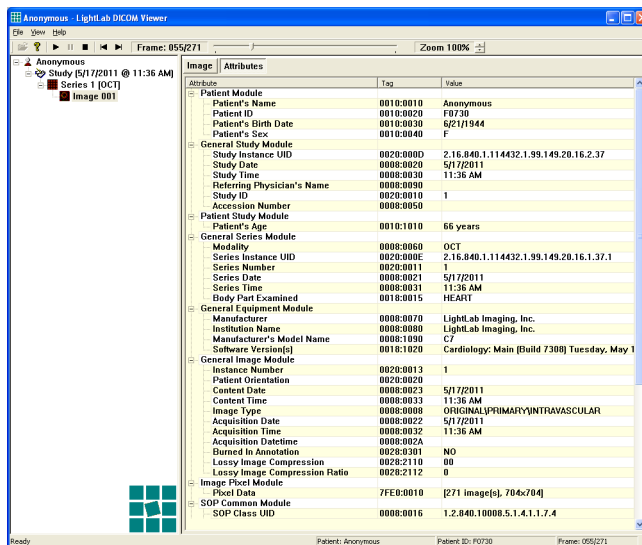

Figure 8-6: St. Jude Medical DICOM Viewer - Attributes View
- **Attributes** tab - Displays a list of all DICOM modules and attributes contained in the currently selected image (see Figure 8-6).